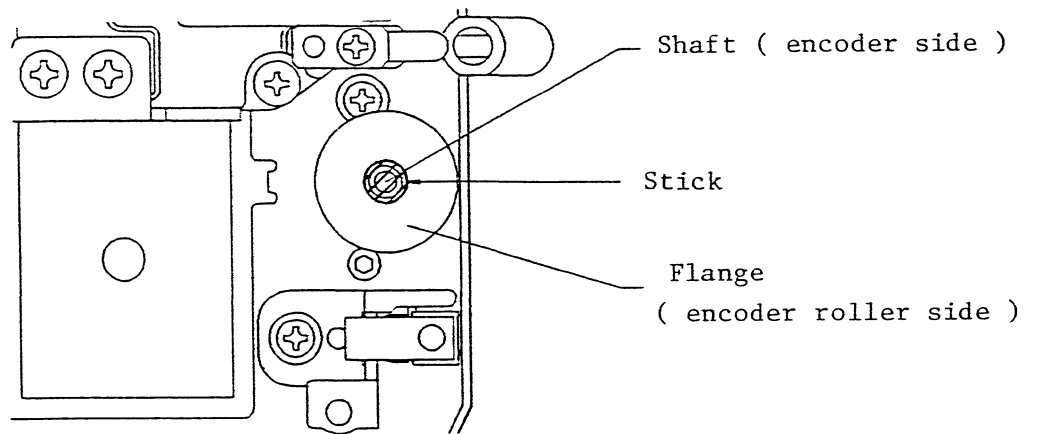

Fig.418 Bonding of encoder roller
- (g) Stick the top of the shaft to that of the flange (Fig. 418).